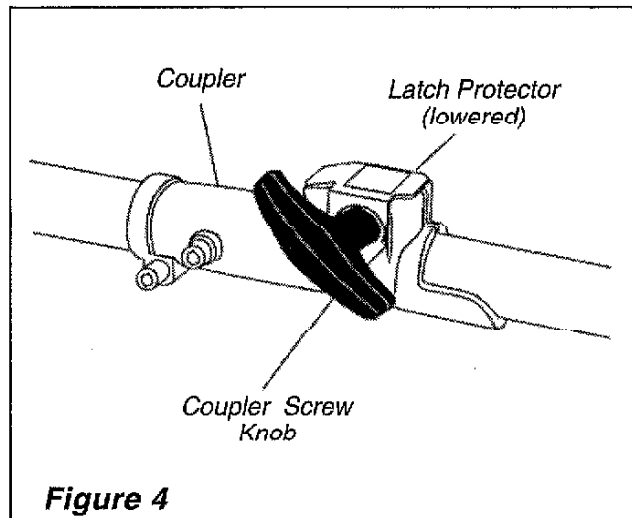

Figure 4
4. When the two tube halves are locked together, press down on the spring-loaded latch protector and tighten the coupler screw. See Figure 4.